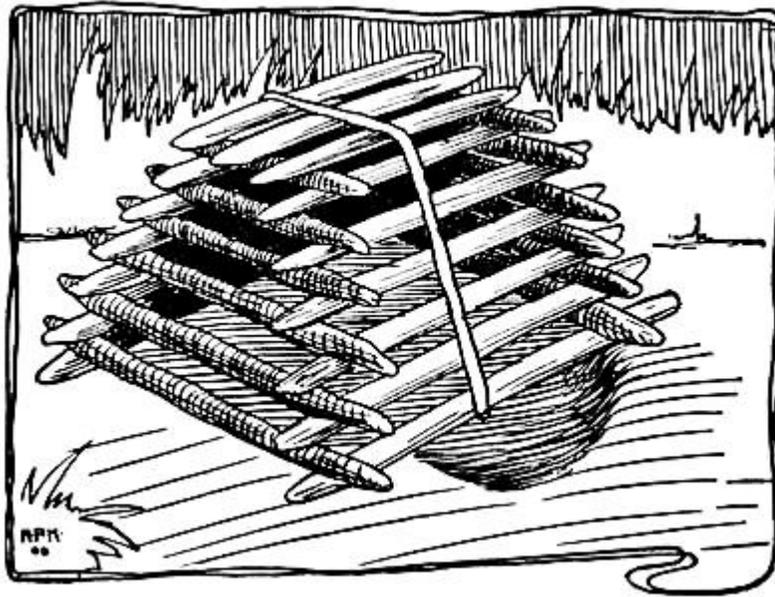

FIG. 222.—The Coop Trap.
**The Coop Trap**, shown in Fig. 222, can be used for trapping the larger variety of birds. This is well known as an effective trap for wild turkeys. It consists of a number of sticks piled up in the form of a pyramid and tied together as shown in Fig. 222. Dig away enough of the ground under one side of the coop to allow a bird to enter, and